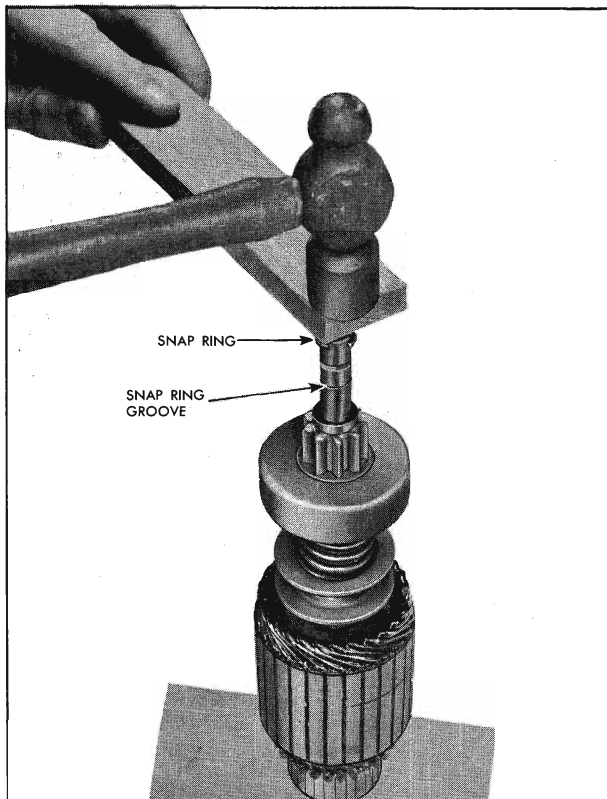

Fig. 11-44 Forcing Snap Ring Onto Armature Shaft
d. Stand armature on end on wood surface with commutator down. Position snap ring on upper end of shaft and hold in place with a block of wood. Hit wood block a blow with hammer forcing snap ring over end of shaft. Slide snap ring past the grease groove to the snap ring groove (Fig. 11-44).